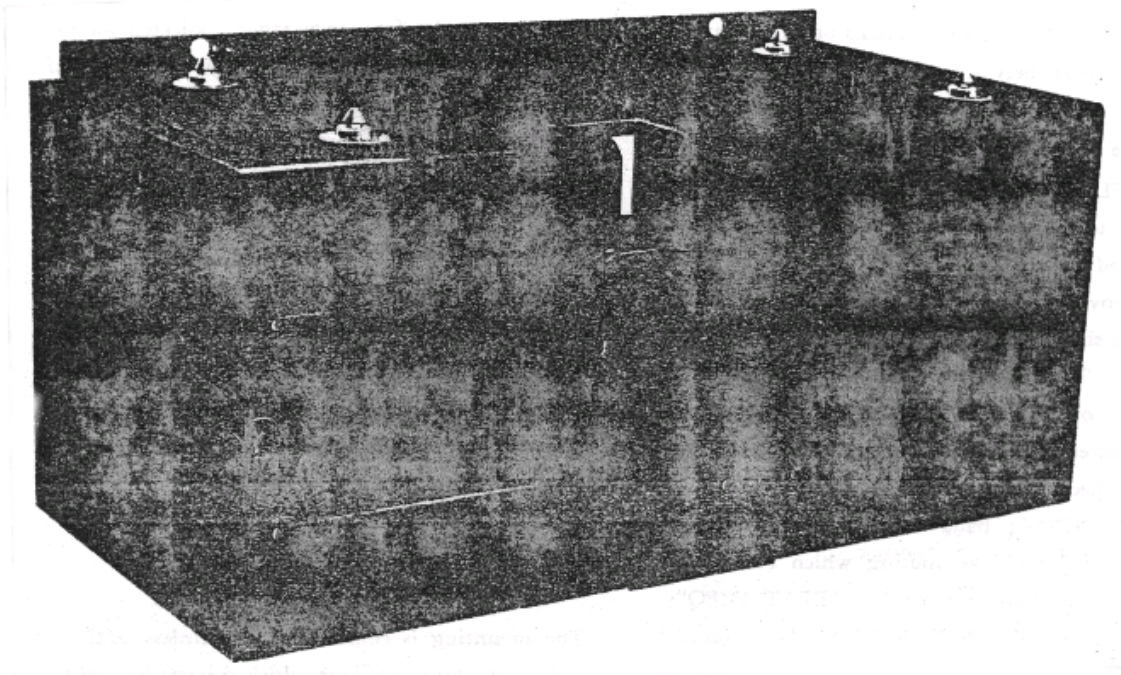

Figure 1-2 Bottom and Back View of Cabinet Radio Receiver BC-348-(*) or
a. CABINET.--The receiver cabinet is of spotwelded aluminum construction with black wrinkle finish and is embossed on the top and back to add rigidity and strength. The panel (front) end allows the removal of the receiver chassis, which runs on the stainless steel strips mounted in the end corners of the cabinet. Two tapped inserts are placed in the rear to receive the thumb screw rods which secure the chassis in the cabinet. A cutout in the rear bottom permits the entrance of Plug PL-P103, PL-Q103 or PL-Q103-A. (See figure 1-2.) Four mounting studs are attached to the bottom of the cabinet for securing the cabinet on Mounting FT-154-(*)